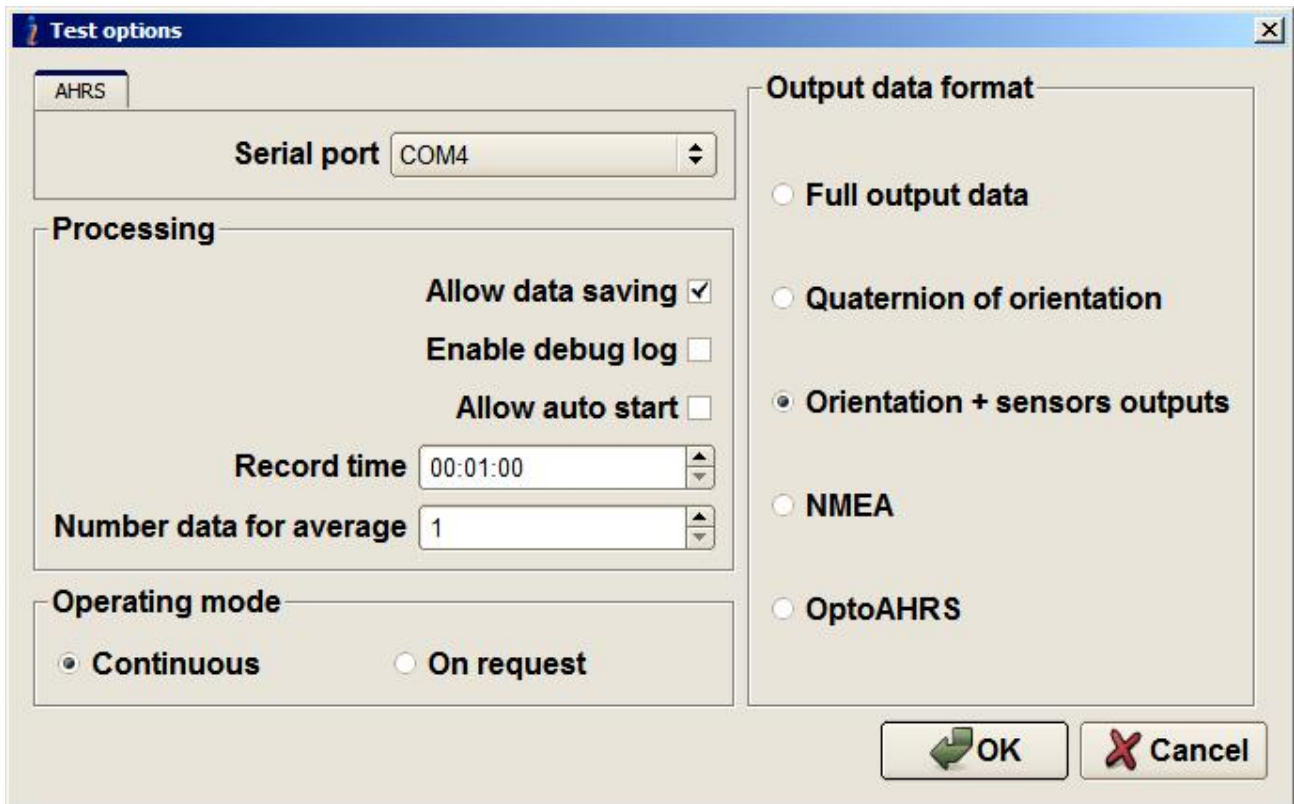
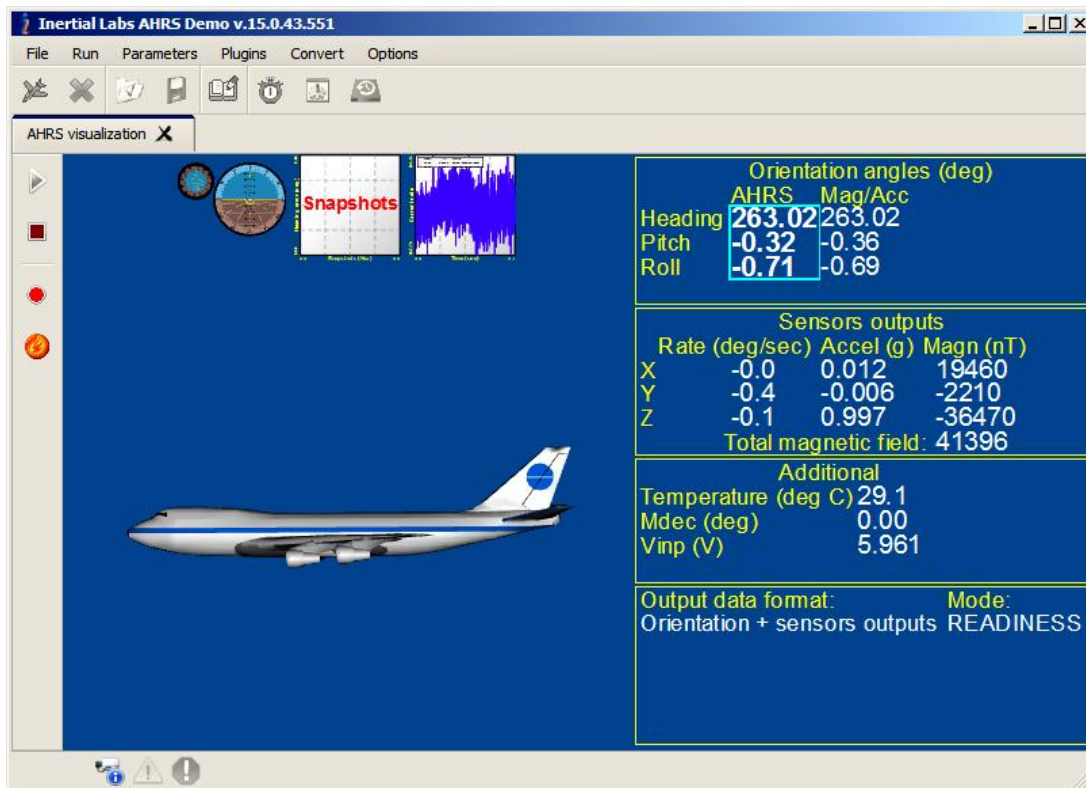

Fig. 3.2
Fig. 3.3
Step 3. Select «**Test options...**» from the «**Options**» menu or click  button. «Test option» window (Fig.3.2) will open.
Step 5. Select «**AHRS visualization**» from the «**Run**» menu or click  button on the toolbar (Fig. 3.1), or click **F4**. The window shown in Fig. 3.3 will appear.
3. To allow data saving the appropriate checkbox should be set in the «**Test Options**» window (see Fig. 3.2).
3. Select «**Test options...**» from the «**Options**» menu (or click  button) – see Fig. 3.2. «Test options» window (Fig. 3.3) will open.
To check whose parameters are loaded in the connected AHRS please select «**Device options ...**» from the «**Options**» menu (or click  button) – see Fig. 3.2. «Device options» window Fig. 5.2 will open.
- The number of COM-port is set correctly in the «**Serial port**» field in «**Test options...**» window from the «**Options**» menu as Fig.3.2 shows.